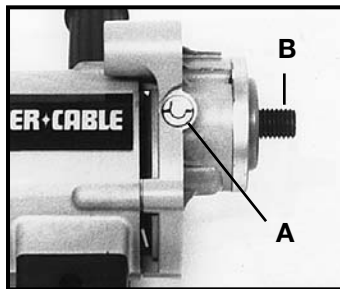

Fig. 4
A spindle lock (A) Fig. 4 is located on the right side of the gear case. **To Operate:** Depress spindle lock pin with thumb while rotating spindle (B) Fig. 4, **BY HAND** until pin engages and stops spindle rotation.